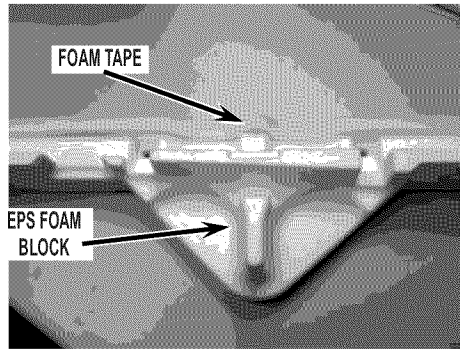

Figure 5
6. Apply foam tape to EPS Foam Block as shown in *Figure 5*.